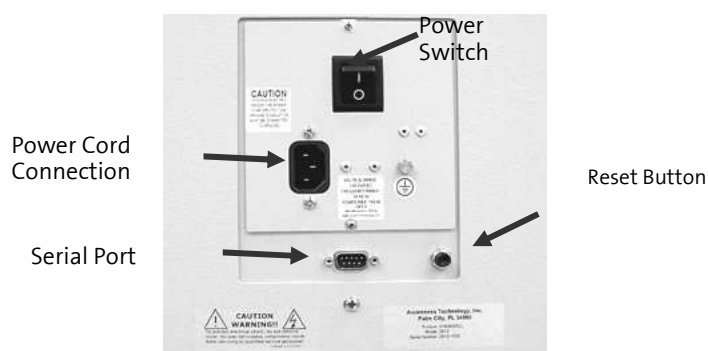

Figure 2.1-3 Back of Instrument
6. Using the serial cable provided, connect the computer's serial port to the **ELISYS UNO** serial port (reference **Figure 2.1-3 Back of Instrument**). If necessary, purchase a USB to serial converter, available through other sources.